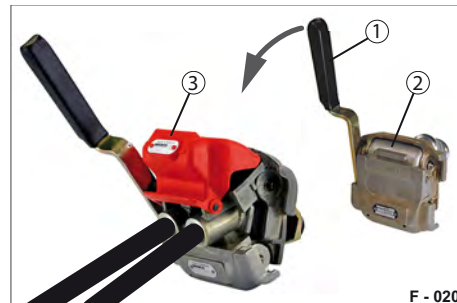

Fig. 20 Duo-Matic, coupled
- Push the handle (Fig. 20/1) of the Duo-Matic quick-release coupling socket downwards and slide the coupling head (Fig. 20/3) under the opened protective cover.